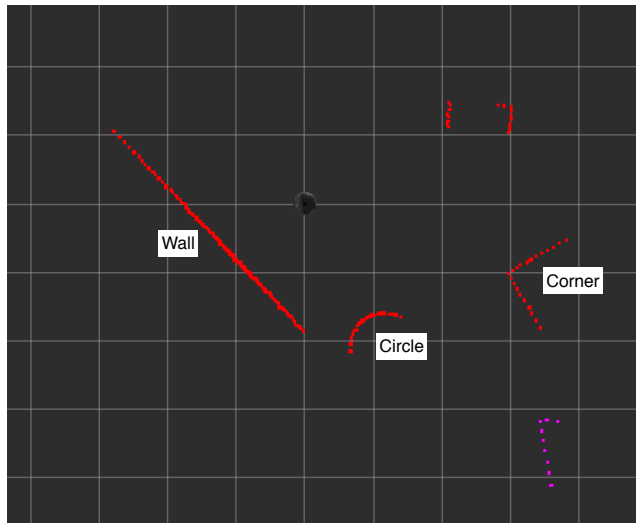

Figure 3: A laser scan with high-level features identified.
Sometimes it is useful to take the raw points detected by the laser scanner and interpret them as geometrical objects (e.g., lines, curves, polygons). For instance, given the laser scan in Figure 3 we may wish to automatically interpret the laser scan data (i.e. pick out lines, circles, etc.). In the context of the present challenge, the ability to differentiate between lines and circles is crucial to running The Gauntlet™ since walls are obstacles and the circle denotes the goal.
Exercise (7) Now let's look at some LIDAR data that was collected from the Chamber of Emptiness™, which is a desolate room with one wall. Load the data in *scan1.mat*, which should contain the variables r for range (distance from the scanner in meters) and θ for the angle from the front of the robot (see Figure 3).